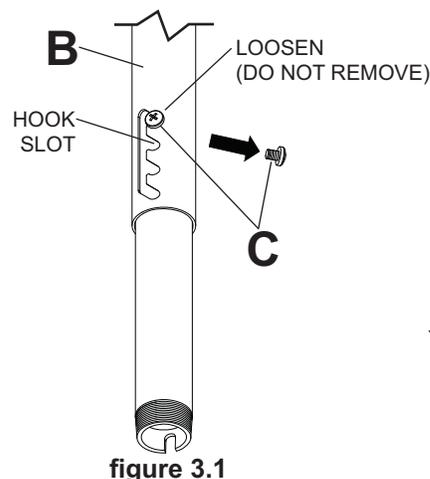

figure 3.1
- 3** There are two M8 x 10mm phillips screws (C) that secure the extension tube (A) to the adjuster tube (B). Loosen the M8 x 10mm phillips screw (C) on the hook slot side of the adjuster tube (B) and remove the other screw as shown in **figure 3.1**. Rotate extension tube (A) and slide down into desired hook slot. Replace the M8 x 10mm phillips screw (C) as shown in **figure 3.2**. Tighten both screws.